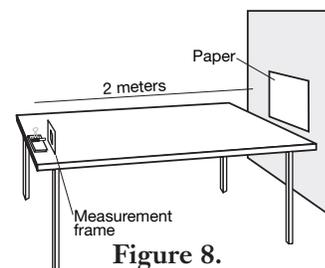

Figure 8.
4. Place the laser pointer and the frame on a table 1.5–3 meters away from a wall so the beam from the laser will pass through the opening in the frame. Use a book or other object to set the laser in the correct position (See Figure 8).